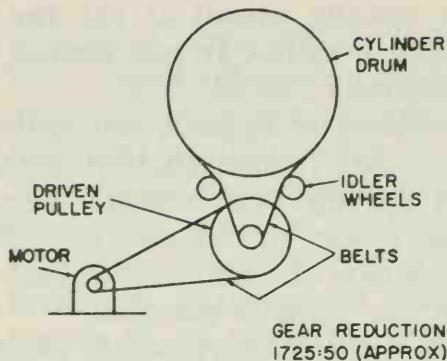
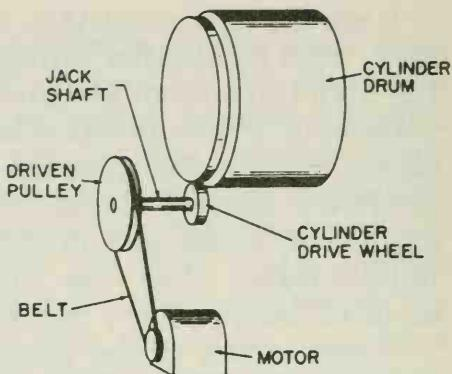

Fig. 4-6. Dryer cylinder-drive system.
Fig. 4-7. Friction cylinder-drive system.
*Cylinder-Drive Assemblies*—To reduce the 1725 rpm achieved by the drive motor to the 50 rpm (approximately) at which the clothes drum must revolve, a speed reduction system is required. One such system is shown in Fig. 4-6, in which the motor pulley drives a driven pulley, which in turn drives the drum. In a variation of this method (Fig. 4-7), the motor pulley is connected to the drum through a jackshaft. The outside circumference